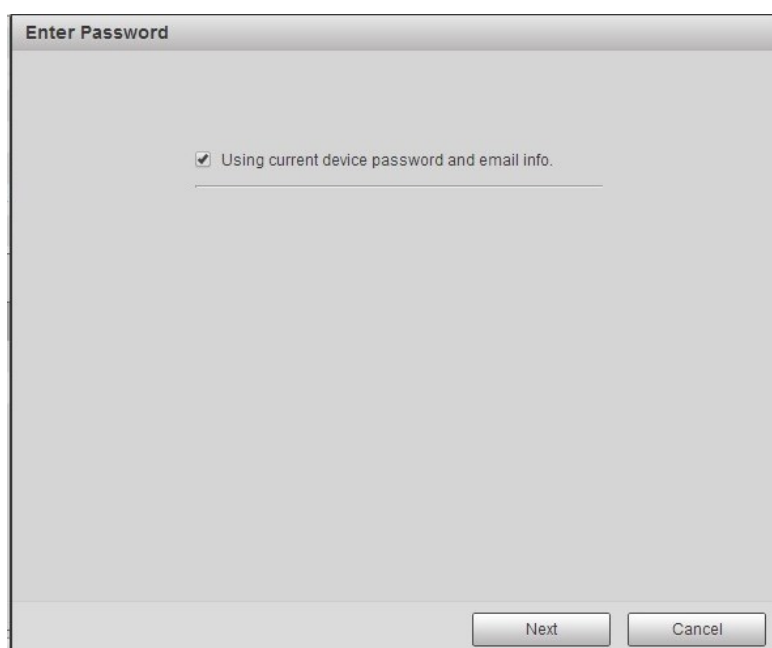

Figure 5-22
- Step 3 Select a camera to be initialized and then click Initialize button. Device displays password setup interface. See Figure 5-22.